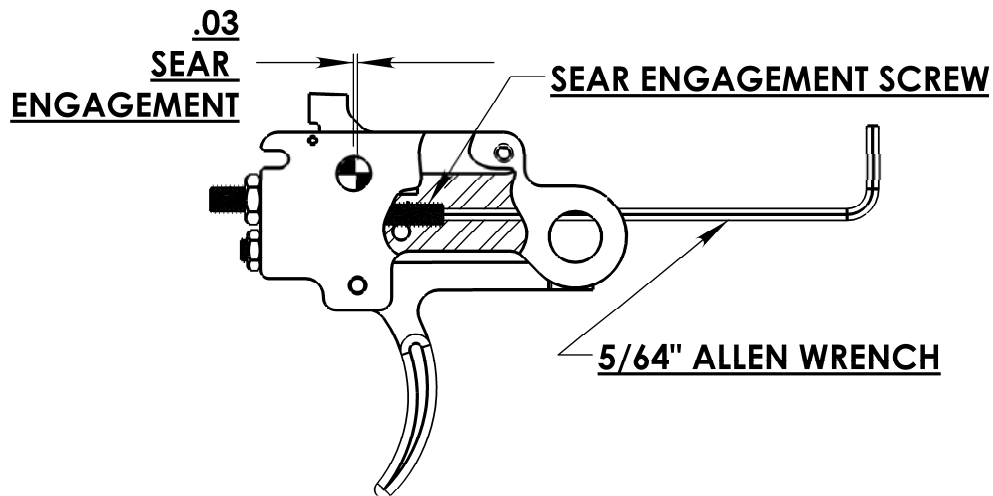

Figure 24. Adjusting sear engagement.
1. Turn the sear engagement set screw counter clockwise using a 5/64" Allen wrench to the desired sear engagement. One quarter of a turn of the sear engagement screw will equal an increase of .031" of sear engagement. Do not increase the sear engagement more than 3/4 of a turn from the factory setting. (Figure 24)